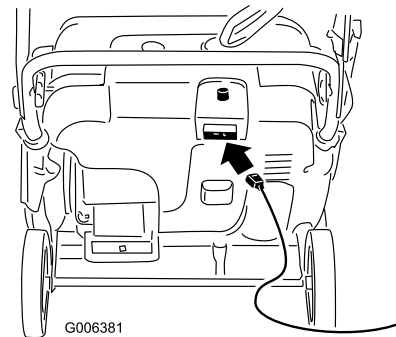
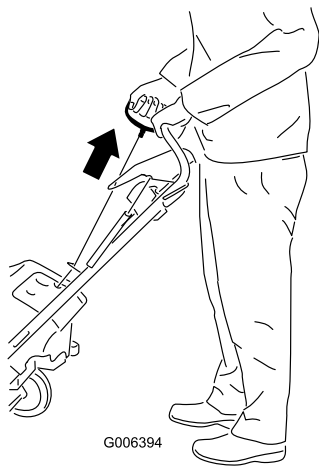

Figure 14
Figure 15
4. Connect an extension cord to a power source and the snowthrower, and push the electric-start button (model 38571 only) (Figure 14), or pull the recoil start handle (Figure 15).